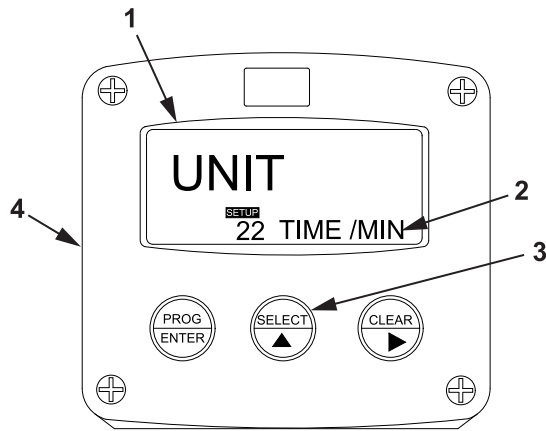

Figure 11. TIME/MIN Display.
- d. Verify that TIME/MIN (Figure 11, Item 2) appears on the display screen (Figure 11, Item 1). If TIME/MIN (Figure 11, Item 2) does not appear, perform the procedure to program tank volume meter monitor settings and select TIME/MIN (Figure 11, Item 2).
- e. Press the SELECT key (Figure 11, Item 3) on the tank volume meter monitor (Figure 11, Item 4).